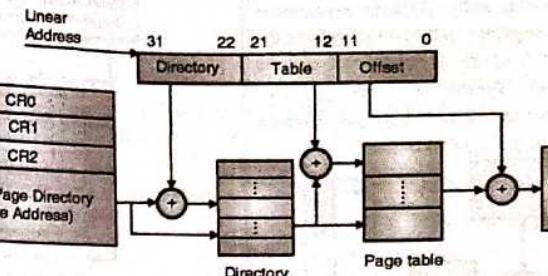

Fig. 12.6.9: Paging mechanism
- The required memory operand from this page is selected by the last 12-bits of the linear address i.e. bit 11 to bit 0. This paging mechanism is shown in the Fig. 12.6.9.